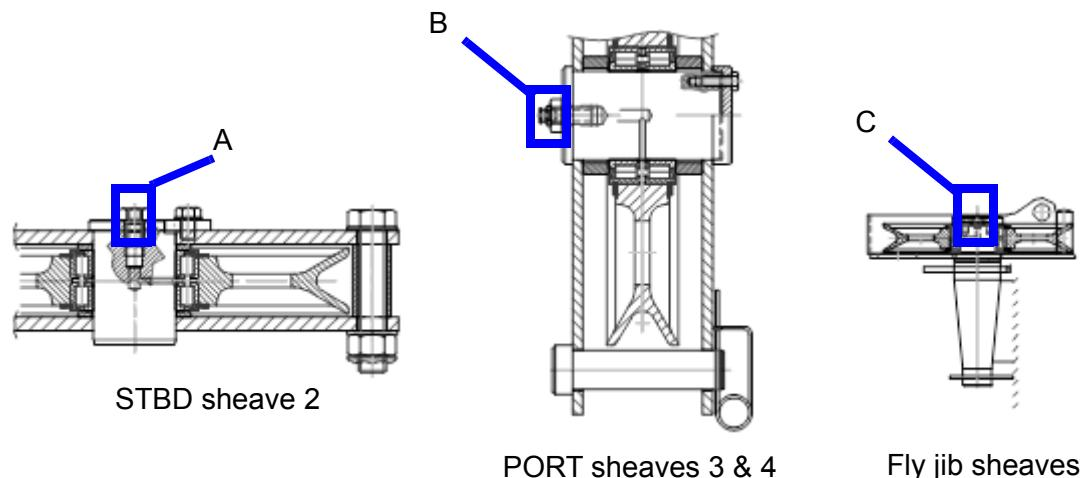

Figure 7-109: Tugger sheaves - Greasing points
- Grease the sheaves according to the greasing schedule. (For the location of grease nipples see Figure 7-109).